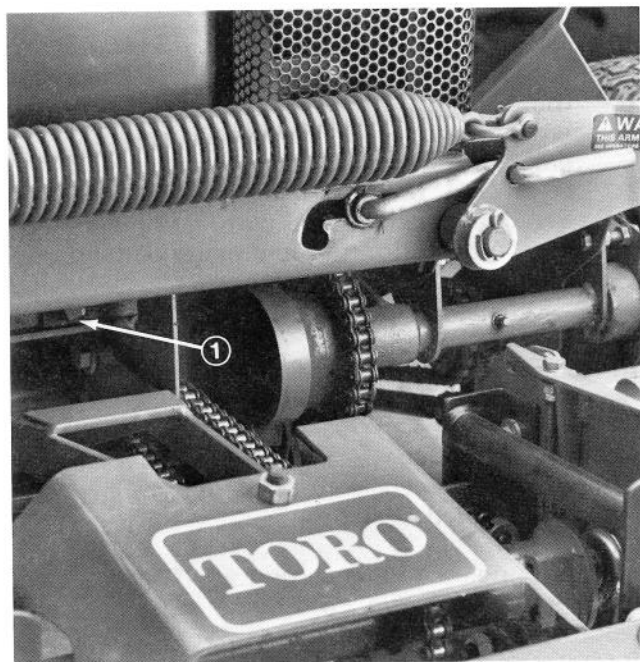

Figure 22
1. Place an oil drain pan below the drain plug on front of crankcase (Fig. 22). Clean area around drain plug.